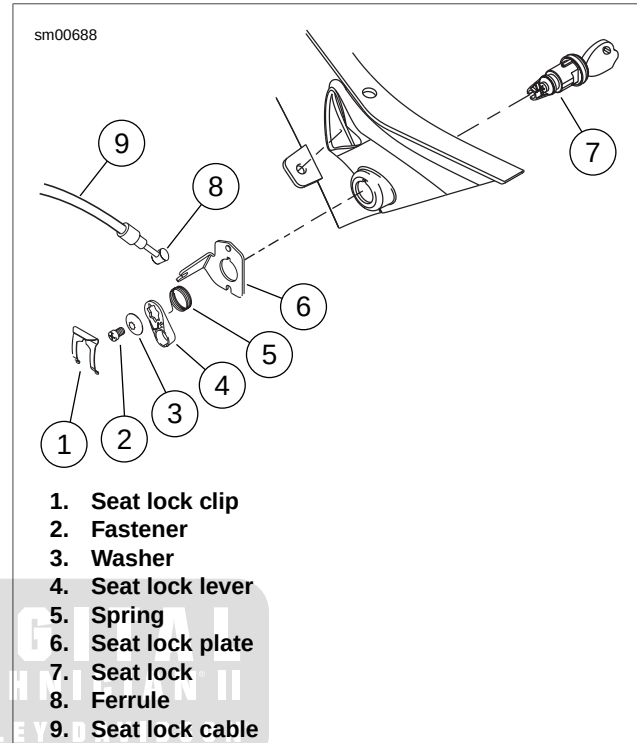

Figure 2-205. Seat Lock and Cable Assembly: Firebolt
3. See Figure 2-205. Disconnect passenger lock cable (9) by removing cable from seat lock plate (6) and ferrule (8) from seat lock lever (4).
4. Remove seat lock lever (4) by removing fastener (2) and washer (3) from seat lock (7).
5. Remove spring (5).
6. Remove seat lock clip (1) by sliding from seat lock plate (6).
7. Remove seat lock plate (6) and seat lock (7).
1. See Figure 2-205. Install the seat lock (7) on to upper tail body work.
2. Install seat lock plate (6) by aligning plate tab onto seat lock (7).
3. Install seat lock clip (1) by sliding clip aligning clip groove onto seat lock plate (6) tab.
4. Position short tab of spring (5) into seat lock notch.
5. Position long end of spring into the seat lock lever (4).
6. Load the spring (5) by turning the seat lock lever (4) counterclockwise 1/4 turn.
7. Once the spring is loaded, install the seat lock lever (4) onto the lock aligning the lever to the square groove that is cast into the seat lock (7).
8. Fasten the lock lever (4) to the seat lock (7) with the washer (3) and fastener (2).
9. Install the ferrule (8) of the seat lock cable (9) into the seat lock lever (4).
11. Install the seat lock cable (9) into the seat lock plate (6).